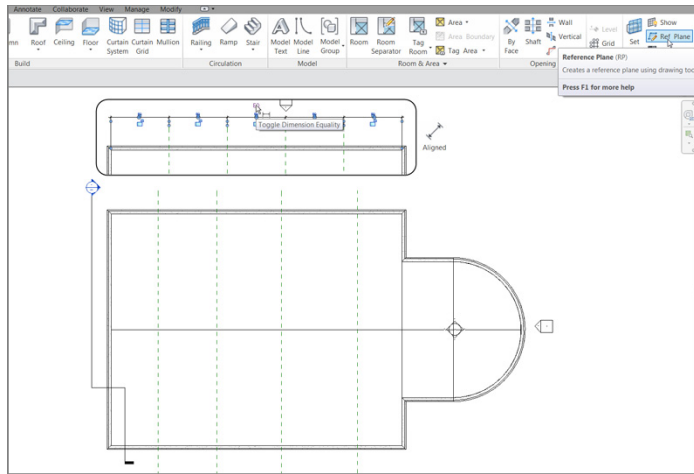

FIGURE 7.10 : Add a dimension string to the reference planes shown here.
10. Press Esc twice, or click Modify. Then, on the Architecture tab, click Ref Plane, as shown at upper right in Figure 7.10.
11. Draw four reference planes spaced approximately the same as in Figure 7.10.
13. Add a dimension string starting at the exterior wall to the left and ending at the exterior wall to the right (see Figure 7.10).